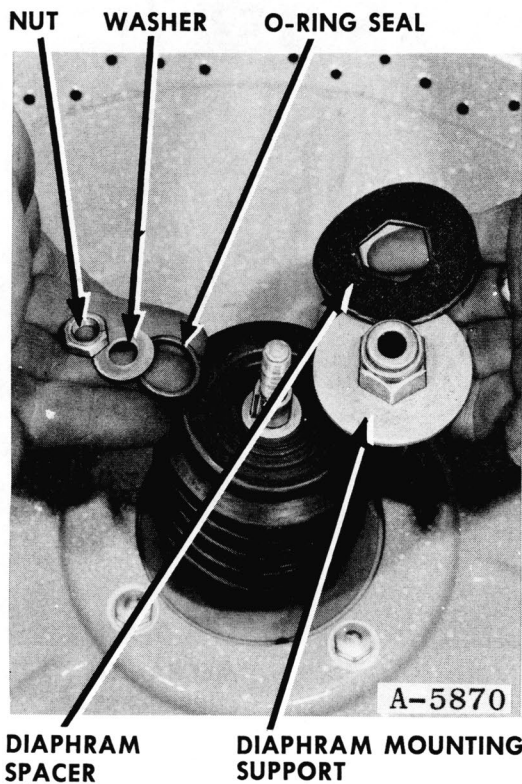

Figure 73
2. Remove the nut from the pulsate shaft holding the diaphragm support, Figure 73.